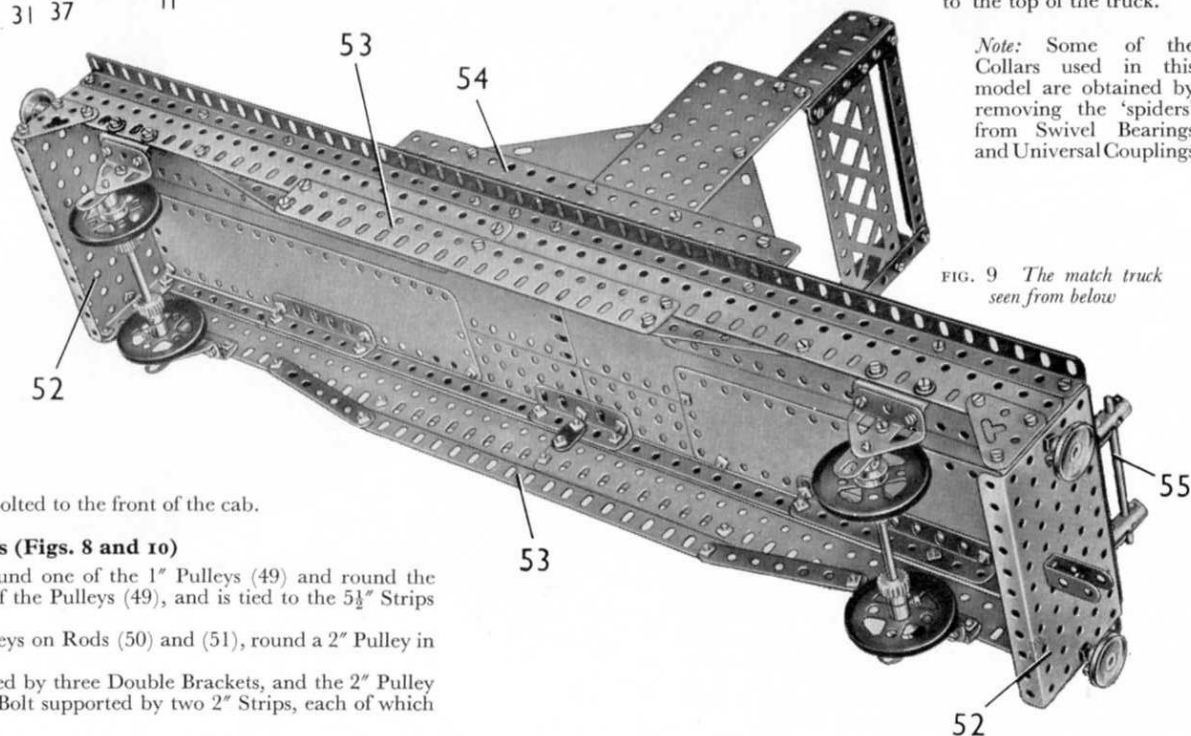

FIG. 9 The match truck seen from below
The Match Truck (Fig. 9)
The top of the match truck is made by connecting two $24\frac{1}{2}$ " Angle Girders at their ends by $5\frac{1}{2}$ " \times $2\frac{1}{2}$ " Flanged Plates (52). The top is filled in by two $12\frac{1}{2}$ " \times $2\frac{1}{2}$ " Strip Plates along the centre and two $9\frac{1}{2}$ " \times $2\frac{1}{2}$ " Strip Plates at each side. At the middle two $5\frac{1}{2}$ " \times $3\frac{1}{2}$ " Flat Plates are bolted to the ends of the Strip Plates (Fig. 9), and are connected to the sides by $2\frac{1}{2}$ " Angle Girders. The $9\frac{1}{2}$ " \times $2\frac{1}{2}$ " Strip Plates are supported by 3" and $4\frac{1}{2}$ " Angle Girders bolted to the $24\frac{1}{2}$ " Angle Girders.
The wheels are 2" Pulleys, each of which is free to turn on a 5" Rod fixed in Double Arm Cranks bolted to Trunnions. The Trunnions are supported by $1\frac{1}{2}$ " Angle Girders fixed to the Flat Girders (Fig. 9). Each wheel is spaced from the Double Arm Crank by a $\frac{1}{2}$ " loose Pulley, and is held in position by a $\frac{1}{4}$ " Pinion.